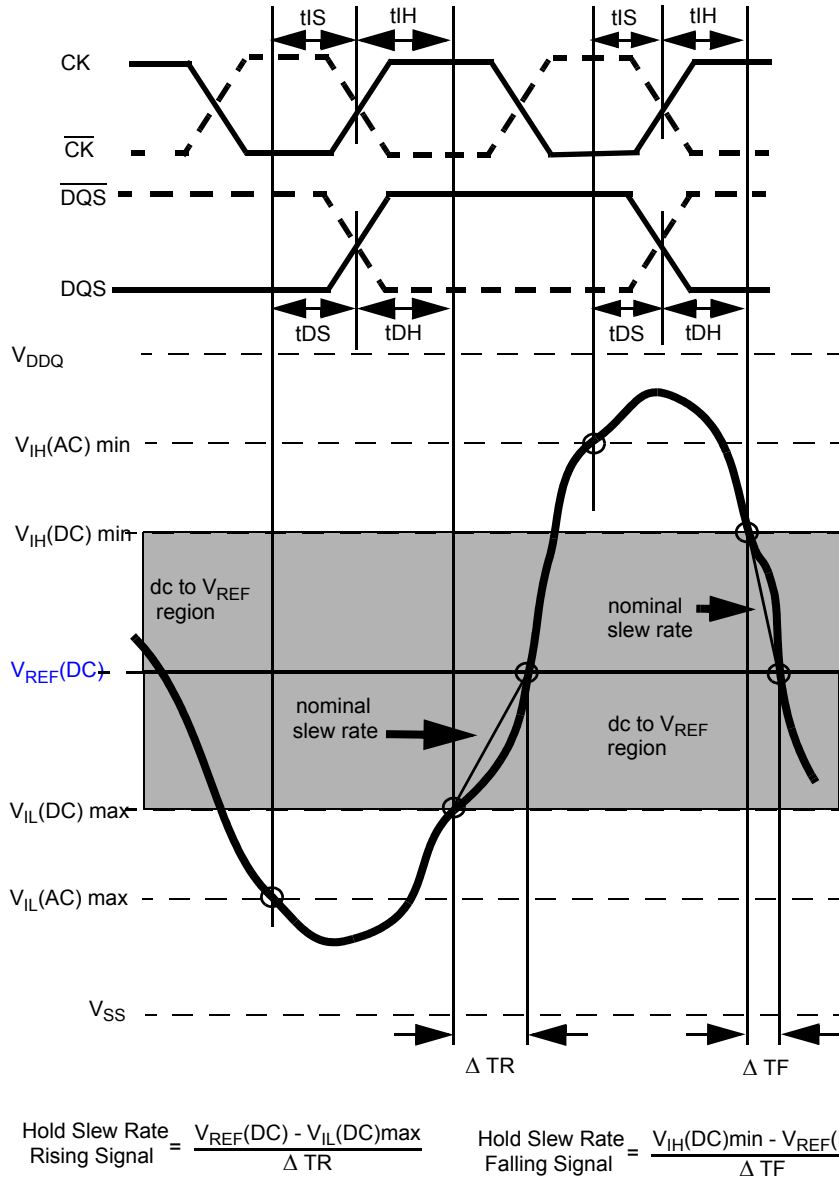
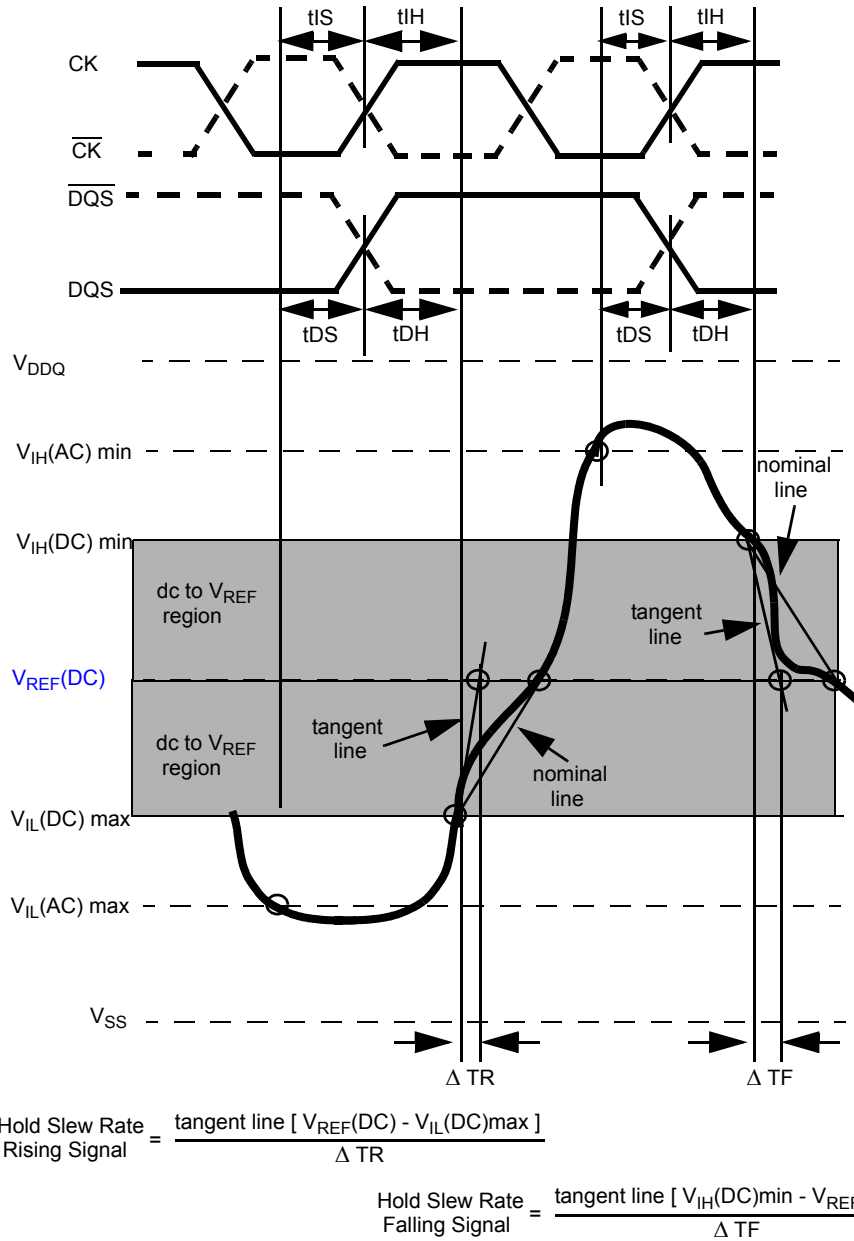

Figure 22. Illustration of nominal slew rate for hold time t_{DH} (for DQ with respect to strobe) and t_{IH} (for ADD/CMD with respect to clock).
Figure 24. Illustration of tangent line for hold time t_{DH} (for DQ with respect to strobe) and t_{IH} (for ADD/CMD with respect to clock)
Hold (tIH) nominal slew rate for a rising signal is defined as the slew rate between the last crossing of VIL(DC)max and the first crossing of VREF(DC). Hold (tIH) nominal slew rate for a falling signal is defined as the slew rate between the last crossing of VIH(DC)min and the first crossing of VREF(DC). If the actual signal is always later than the nominal slew rate line between shaded 'dc to VREF(DC) region', use nominal slew rate for derating value (see Figure 22). If the actual signal is earlier than the nominal slew rate line anywhere between shaded 'dc to VREF(DC) region', the slew rate of a tangent line to the actual signal from the dc level to VREF(DC) level is used for derating value (see Figure 24).